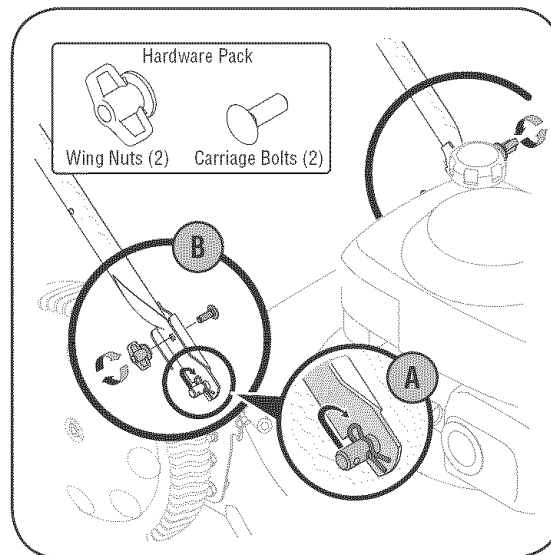

Figure 3-2: Secure lower handle to mounting brackets.
- a. Remove hairpin clip from this hole. Using a pair of pliers, insert hairpin clip into the hole on pin closest to the bracket, Figure 3-2. Repeat on other side.